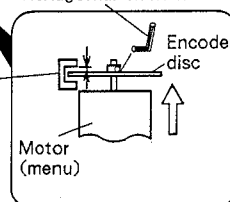
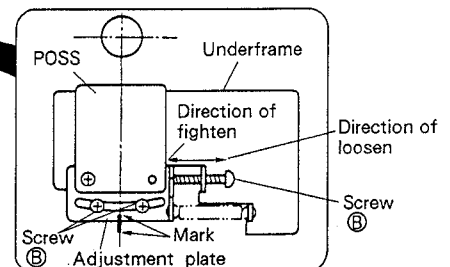
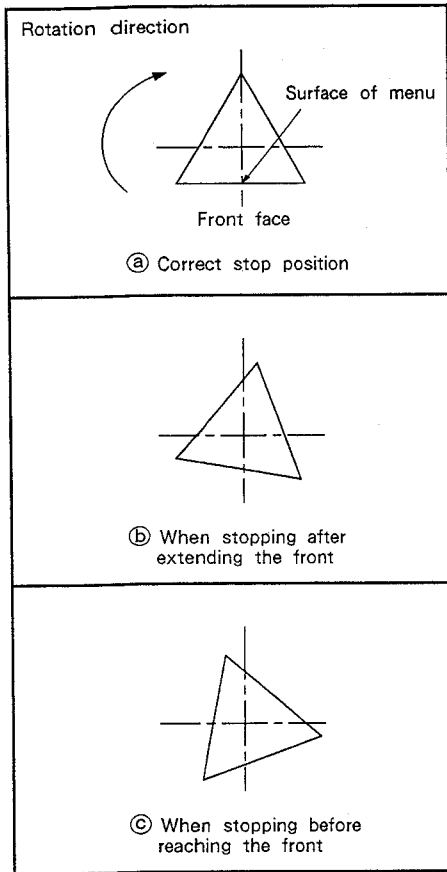

Fig. 7-2
Fig. 7-3
Fig. 7-4
- Loosen the screw ② which holds the encoder disc using a hexagonal wrench.
- Loosen screw ② which holds the adjustment plate.
- (1) Set the gap between the encoder disc and photo interrupter of the motor (menu) to  $1 \pm 0.5$  mm. (Fig. 7-2)
- (2) Fix the screw of the encoder disc by tightening with a hex wrench.
- (3) Turn screw ③ so that the carved mark on the adjustment plate align with the underframe. Then temporarily tighten screw ②.
- (4) Push the ROTATE MENU key on the front panel of the main unit so that menu rotates. Then, perform the following adjustments depending on the condition. (Fig. 7-3)
- When the menu stops after extending past the front ..... Loosen screw ②, then tighten screw ③ turning it clockwise.
- When menu stops before reaching the front ..... Loosen screw ② and turn screw ③ counterclockwise to loosen it.
- (5) Turn the menu again and firmly tighten screw ② when the menu stops directing its surfaces to the front. (Fig. 7-4 @)
- (6) Finally, turn the menu and check that the menu stops directing all of its three surfaces to the front at every  $120^\circ$  rotation.